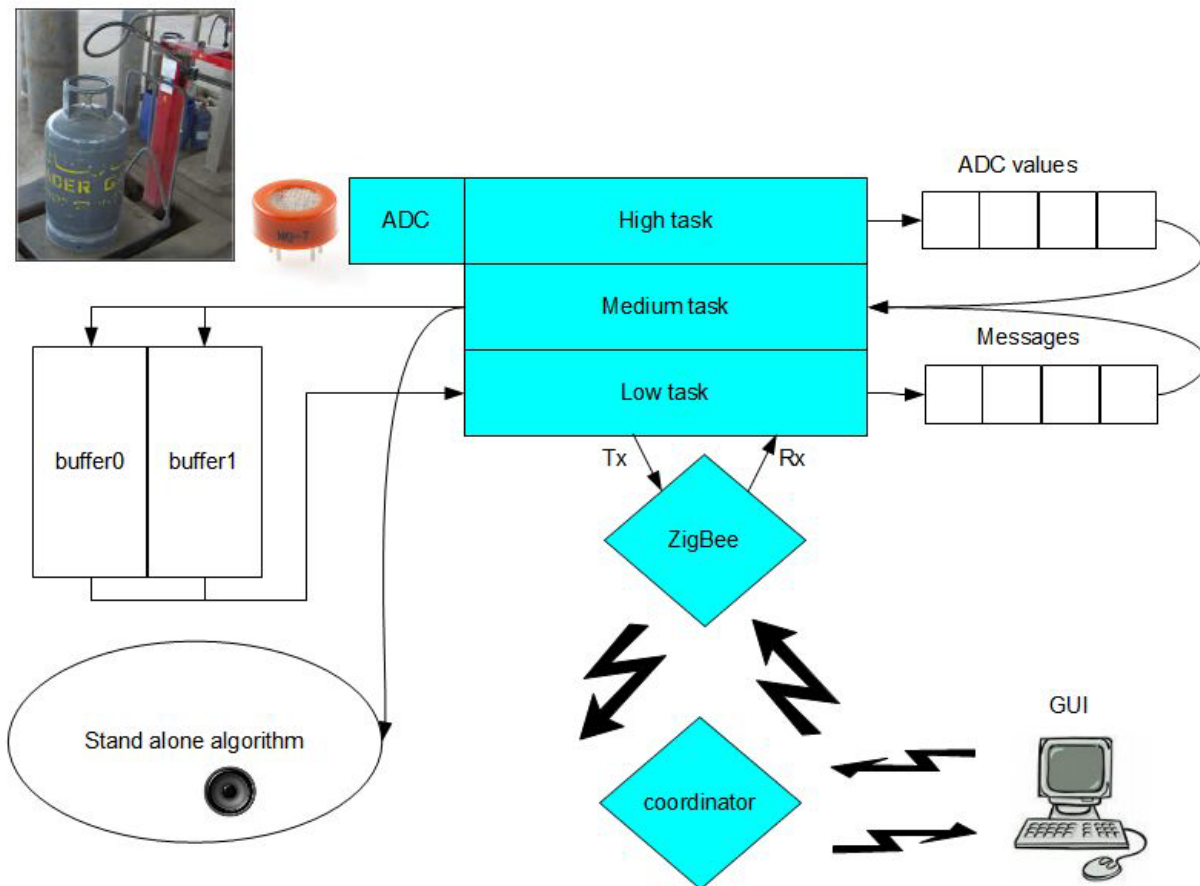

Figure 5: Software block diagram.
The three main software tasks in this project run under the FreeRTOS operating system, as shown in **Figure 5**. For FreeRTOS information, visit: www.freertos.org.
2. Non-Critical errors; which include buffer over runs. This condition happens when one buffer (see Figure 5) has not transmitted its data and the software needs to use that buffer for new ADC data. A message over run, which occurs when a message does not have any more space in memory, also triggers a non-critical error. This type of error causes the MCU to transmit an error message and to store that message in flash memory. But, the MCU continues to work normally.